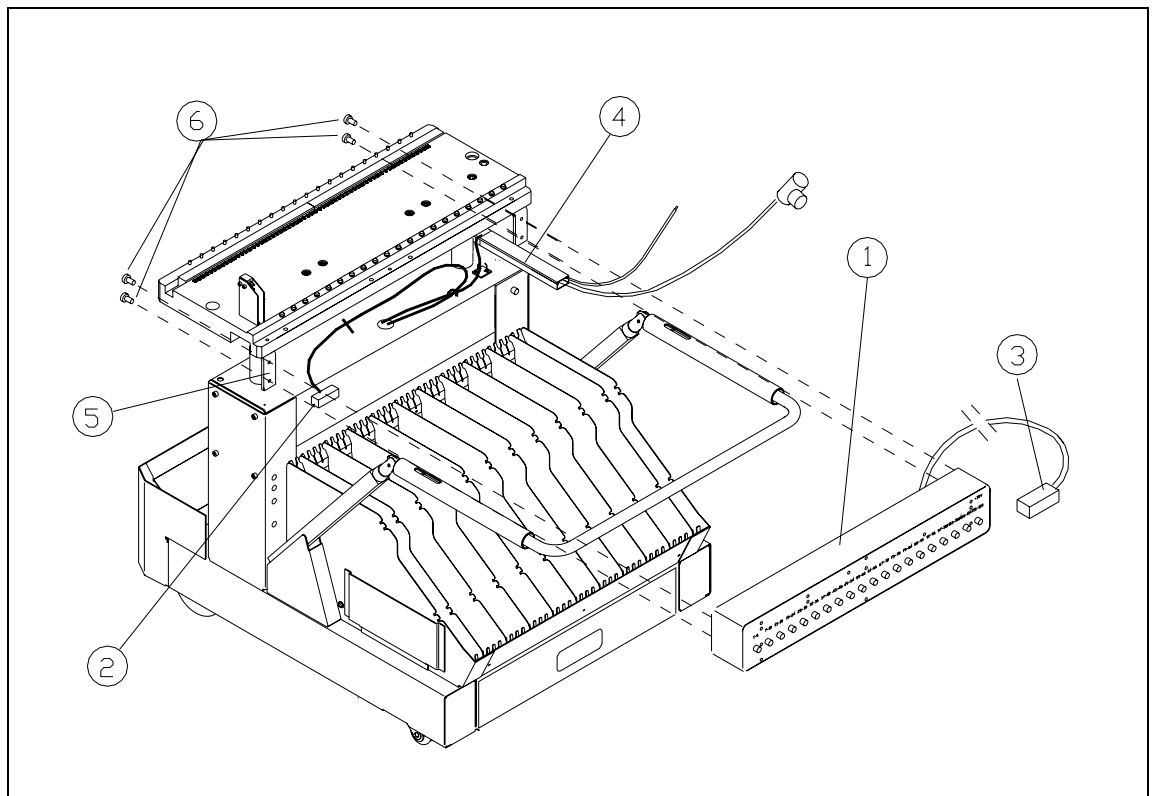

Fig. 9.5.4 *Exchanging: Communications Unit; View in Direction "Component Table Termination Panel"*
- Unplug the connector of the cable "Transformer -> power supply" at the back of the communications unit (see Fig. 9.5.4 -> 2).
- Holding the communications unit, loosen its LH and RH fastening screws on the retaining brackets under the table plate (2 screws: see Fig. 9.5.4 -> 5, 6).
- Connect the cable "Transformer -> power supply" at the back of the communications unit (see Fig. 9.5.4 -> 2).